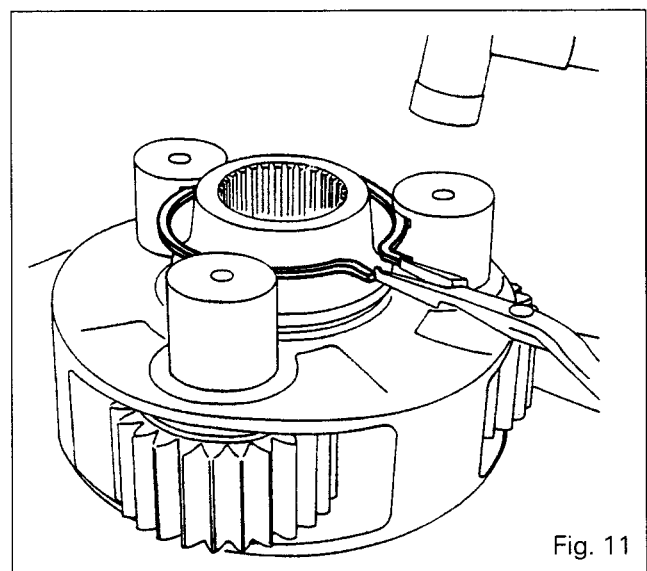

Fig. 11
18. Tap lightly on the three pins to insert the circlip into the groove in the planetary carrier (Fig.11).
19. Check that the spur washer (9) is fitted.